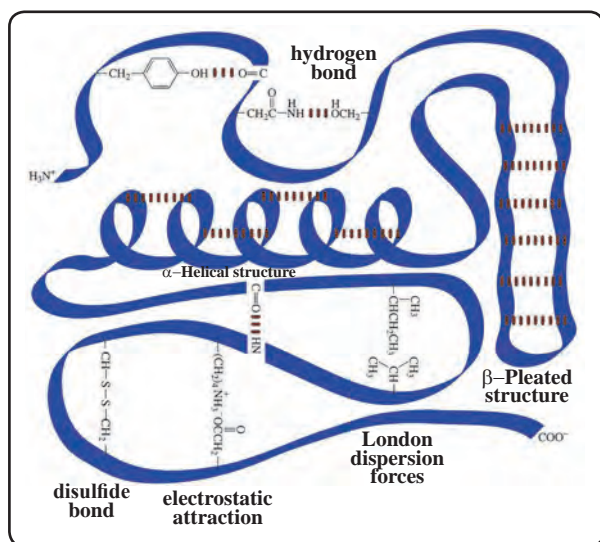

Fig. 14.21 : Tertiary structure of protein
c. **Tertiary structure of proteins** : The **three-dimensional shape adopted by the entire polypeptide chain of a protein** is called its tertiary structure. It is the result of folding of the chain in a particular manner that the structure is itself stabilized and also has attractive interaction with the aqueous environment of the cell. The **globular** and **fibrous** proteins represent two major molecular shapes resulting from the tertiary structure. The forces that stabilize a particular tertiary structure include **hydrogen bonding**, **dipole-dipole attraction** (due to polar bonds in the side chains), **electrostatic attraction** (due to the ionic groups like $-\text{COO}^-$, NH_3^+ in the side chain) and also **London dispersion forces**. Finally, **disulfide bonds** formed by oxidation of nearby $-\text{SH}$ groups (in cysteine residues) are the **covalent bonds** which stabilize the tertiary structure (Fig. 14.21).